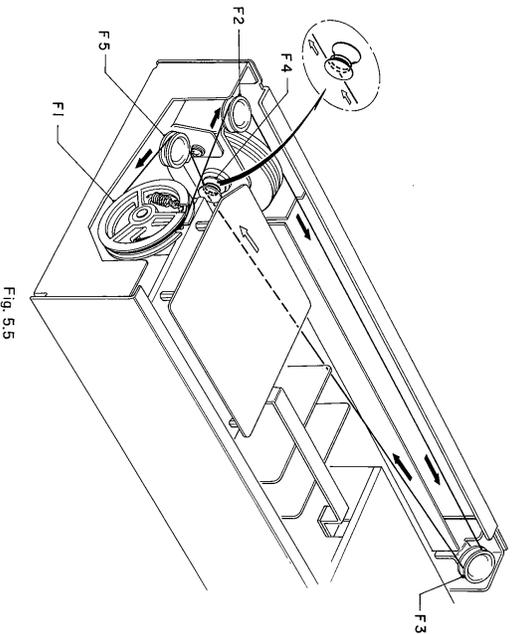

Fig. 5.5
- (2) Referring to Fig. 5.5, wind the thread two turns on F4 (Tuning Shaft) by way of F2 and F3 (Guide Pulleys) in the direction from the Flywheel side to the Front-end, and wind the thread 1-1/2 turns on F1 (Front-end Pulley 430) from the under side of F1 by way of F5 (Guide Pulley).